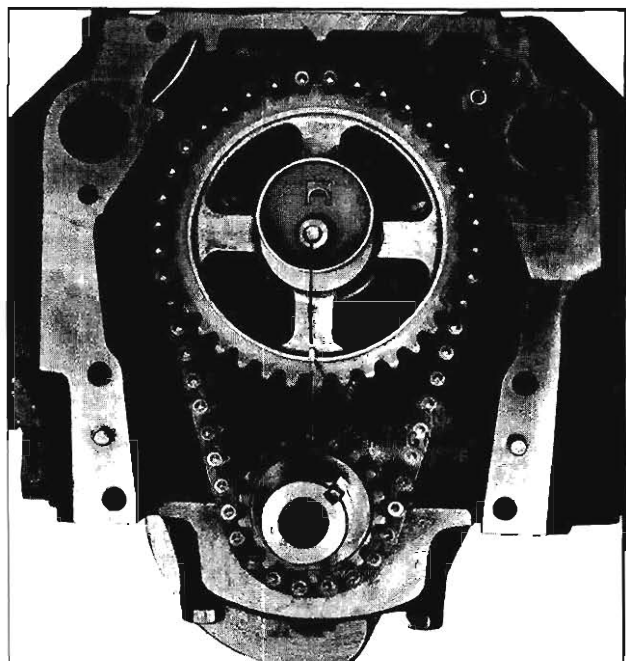

Fig. 3-443 Timing Gear Position
1. Install camshaft gear, crankshaft gear, and timing chain together to align timing marks. (Fig. 3-443)